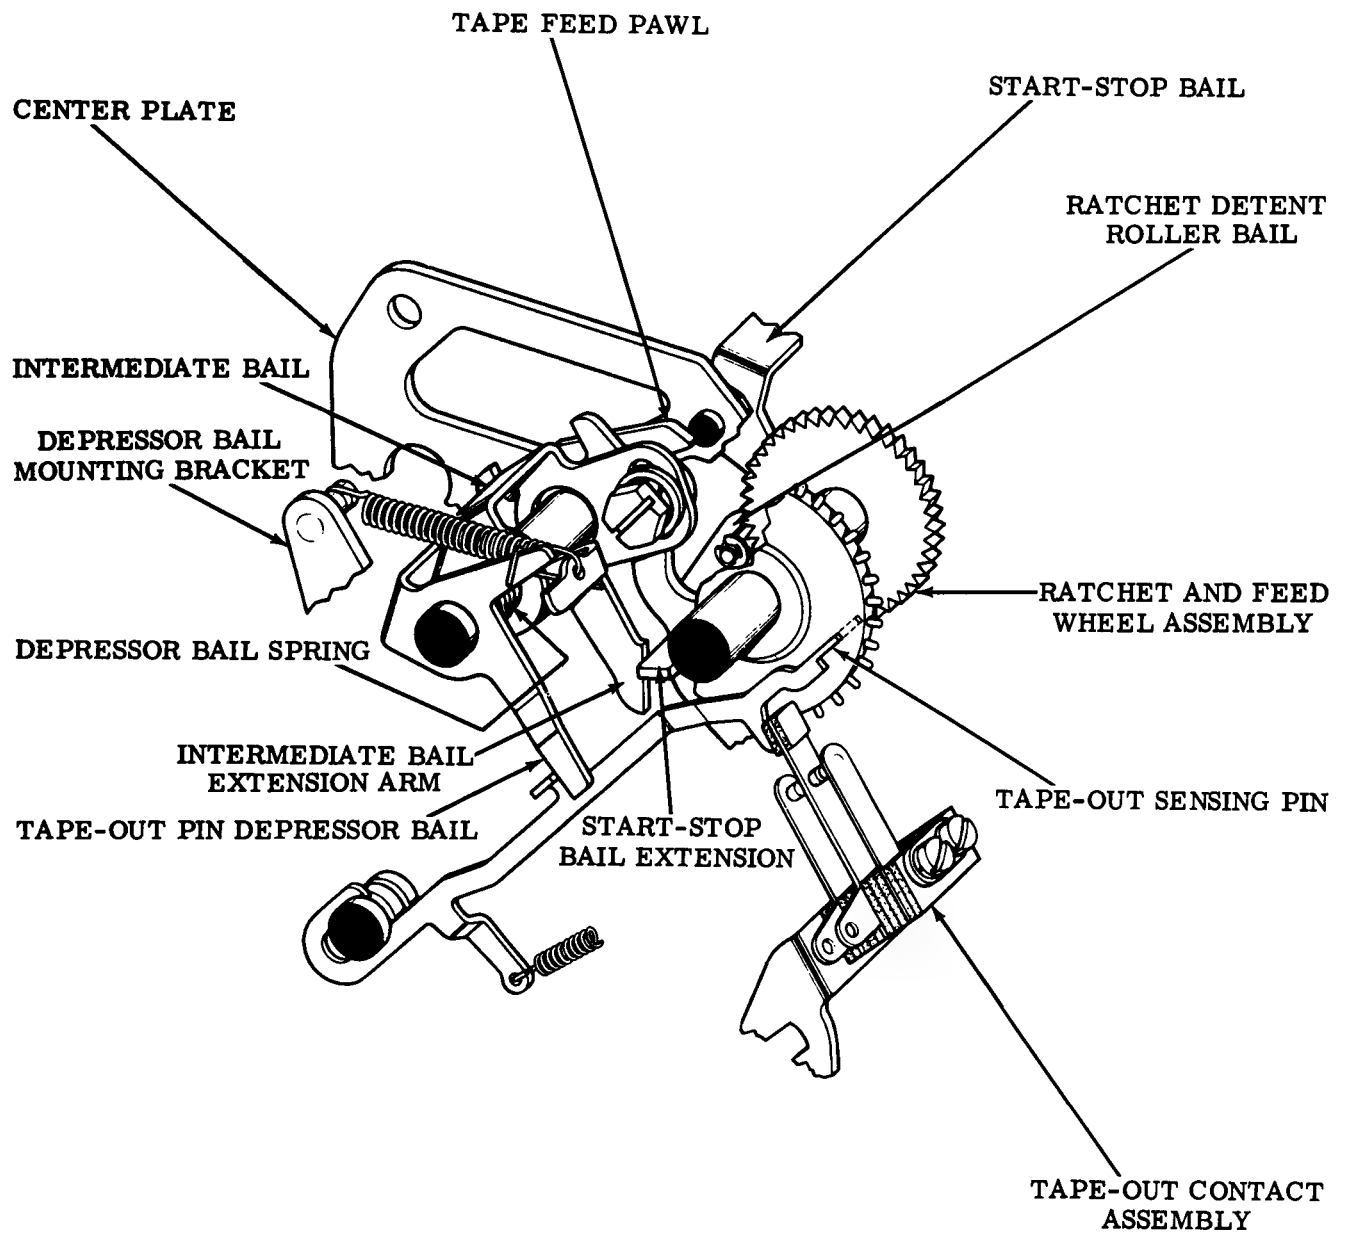

Figure 17 - Freewheeling and Tape-Out Mechanisms
4.12 The tape feed pawl (Figure 17) advances the tape feed ratchet one tooth against the action of the ratchet detent roller. The tape
8.02 The tape-out sensing pin (Figure 17) is to the right and slightly forward of the five aligned tape sensing pins. When the tape-out sensing pin is in a depressed position, the circuit is closed, and the unit transmits. Thus,